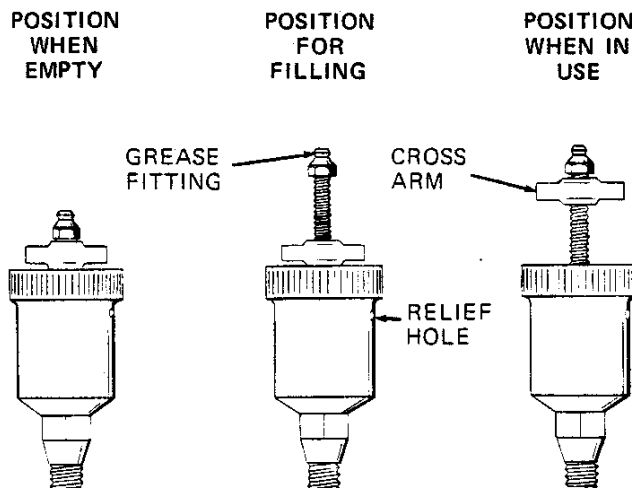

Figure 3. Automatic Lubricating Grease Cup
Before removing the seal assembly, turn the cross arm on the seal grease cup (11) clockwise until it rests against the cover (see figure 3). This will prevent the grease in the cup from escaping after the seal is removed.
Before starting the pump, fill the grease cup through the grease fitting with a good grade of No. 2 pressure gun grease until grease escapes from the relief hole. Turn the grease cup arm counterclockwise until it is at the top of the stem; this will release the spring to apply grease to the seal (see figure 3).